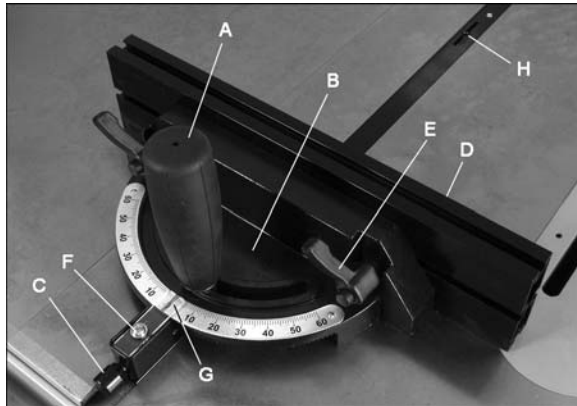

Figure 22
Refer to Figure 22.
2. Loosen *lock handle* (A, Figure 22) by turning counterclockwise.
3. Pull out spring-loaded *knob* (C) and rotate knob until *body* (B) of miter gauge is at the desired angle as indicated on the scale.
4. Tighten *lock handle* (A).
The *extension plate* (D, Figure 22) can be adjusted by sliding to the right or left or removed entirely.